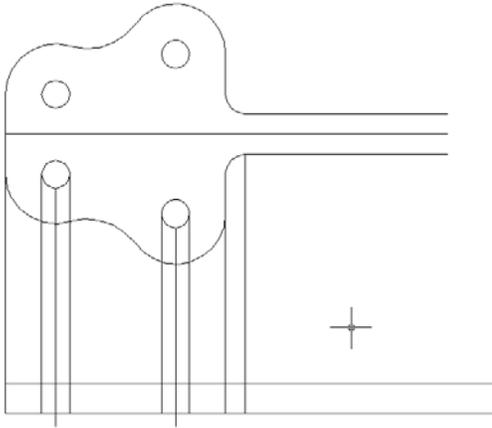

Figure 10.18 – Offset a Line 15 mm
Now, select the Offset tool on the Modify toolbar. On the command line, you are asked for the offset distance, and type in 15 and press Enter. Pick the bottom line and offset the next line a little above the baseline. A new line will be added to the drawing 15mm above the baseline. (See Figure 10.18) We will offset another line to make the centerline of the bracket's loop, so to stay in the command by pressing the Enter key twice. After pressing the enter key twice and typing in the next offset distance of 150, press Enter at the command line. Offset the line coming off the south quadrant of the left hole by selecting this centerline and then pick to the right of the line to offset a new line 150mm. (See Figure 10.18) This newest of lines in your drawing will be used as a guide to draw the two circles making up the loop of the bracket.
*** World Class CAD Challenge * - Create a New file using the Metric template, and draw the 31 entities shown in Figure 10.18 in 2 minutes 35 seconds. Continue this drill four times, each time completing the drawing under 2 minutes 35 seconds to maintain your World Class ranking.**